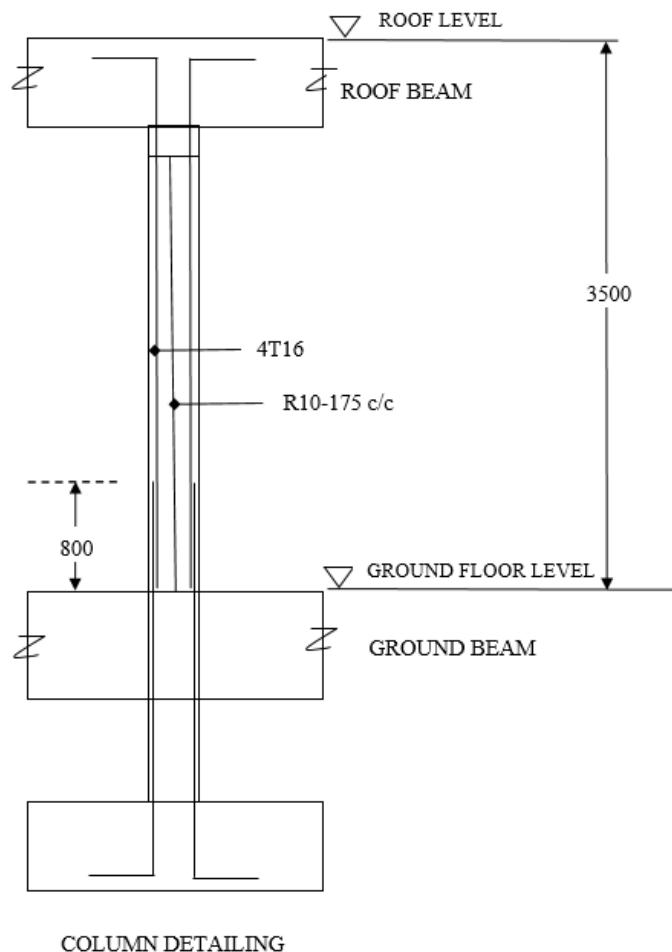

Figure B4(2) / Rajah B4(2)
- (a) Based on **Figure B4(1)** and **Figure B4(2)**, calculate the quantity for formwork to sides of column.
- (b) Based on **Figure B4(1)** and **Figure B4(2)**, calculate the taking off for the following items:
- (c) Based on **Figure B4(1)** and **Figure B4(2)**, prepare taking off for the quantities of the following items:
**ROOF BEAM DETAILING****Figure B4(1) / Rajah B4(I)**